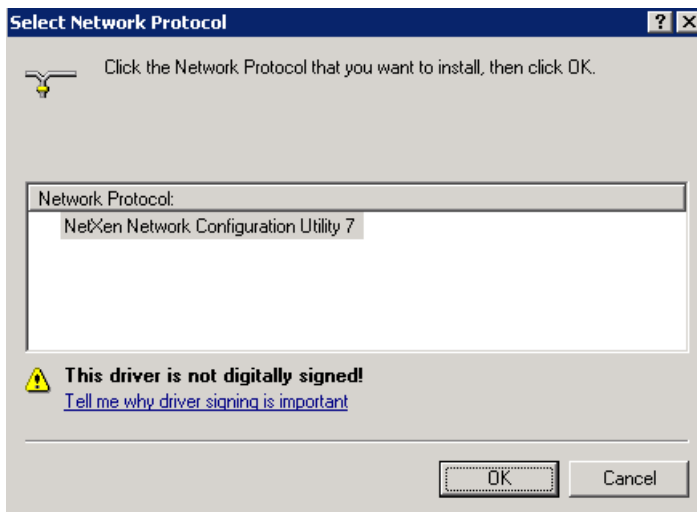

Figure 5-11 Select Network Protocol window
5. Highlight NetXen Network Configuration Utility 7 (Figure 5-11) and click **OK**.